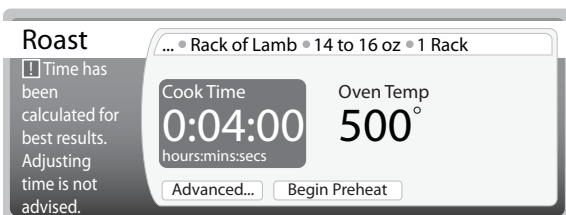

Figure 2.4: Selecting Cook Time
2. Use the inner CookWheel knob to scroll to the cook time and press the knob to select it (Figure 2.4).